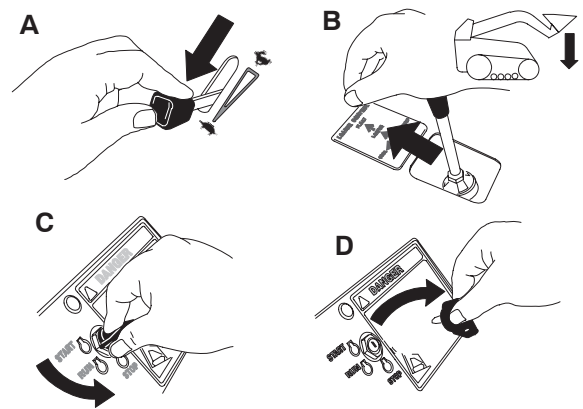

Figure 21
1. Move the throttle lever to the slow position (Fig. 21, A).
2. Lower the loader arm (Fig. 21, B).
3. Turn the ignition key to the stop position (Fig. 21, C).
4. Remove the ignition key (Fig. 21, D).